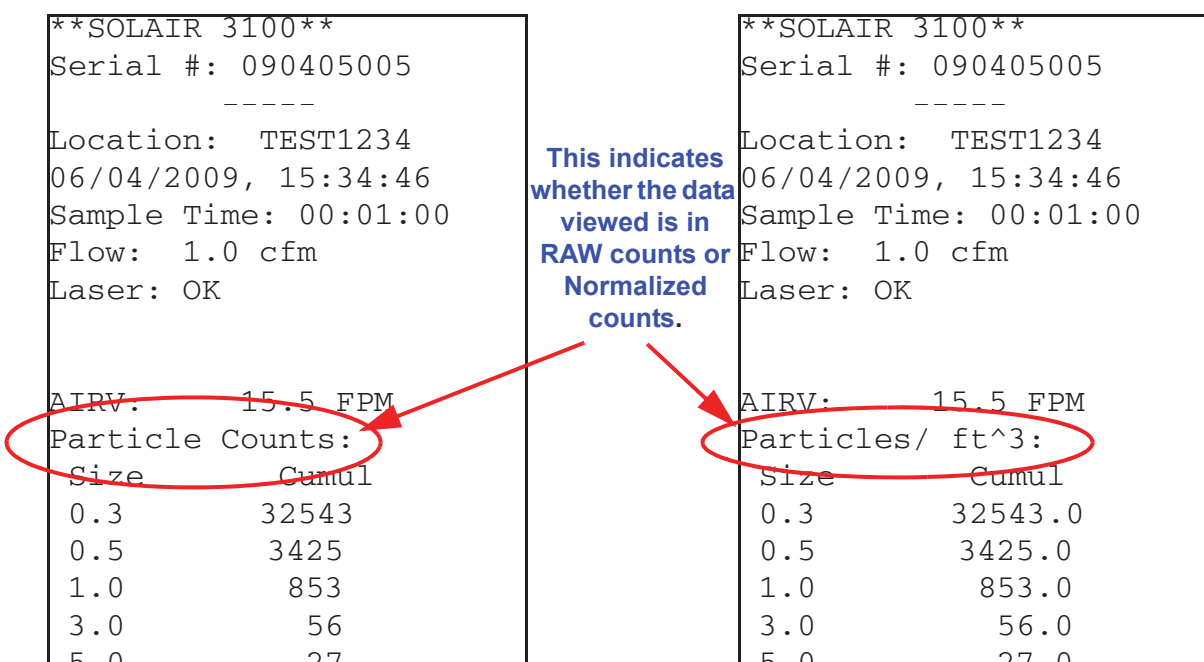

Figure 6-77 Sample Report Formats
- Raw (“Particle Counts”) or Normalized (“Particles/ft³” or “Particles/m³”). See Figure 6-77.